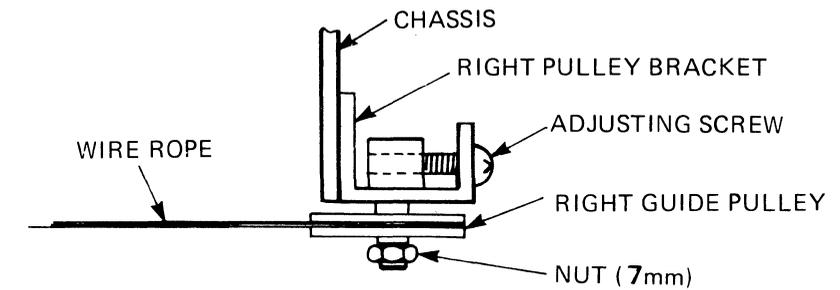

Figure 5-5 Wire Rope Tension Adjustment
- b. Remove the cover over the nut near the right guide pulley. Loosen the nut (see Figure 5-5).